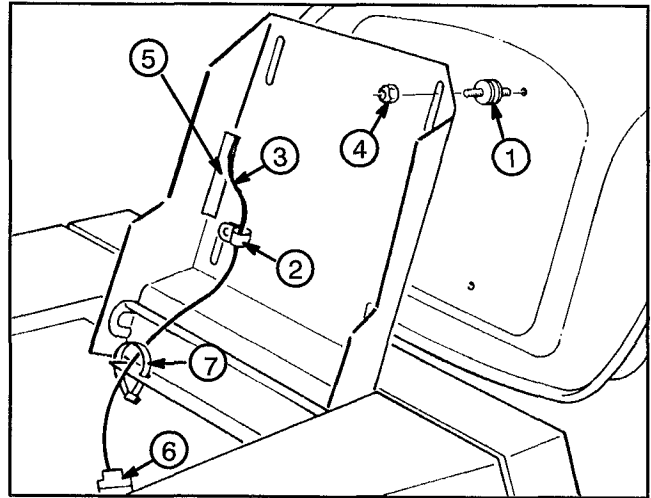

Figure 3
1. Thread (4) seat spacers into bottom of seat (Fig. 3).
2. Position seat onto seat base, inserting seat switch cable thru slot and spacer studs thru mounting holes (Fig. 3).
3. Slide wire clamp over seat switch wire (Fig. 3).
4. Using left front spacer stud, loosely secure wire clamp and seat to seat base with a locknut (Fig. 3).